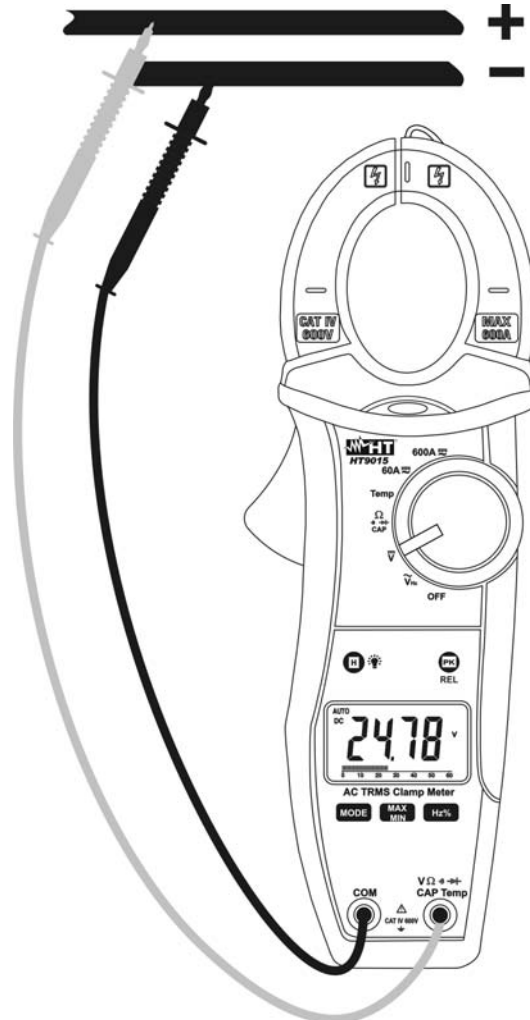

Fig. 4: Taking DC voltage measurements
2. Insert the red test lead plug into $V\Omega\bar{V}$ jack and the black test lead plug into **COM** jack (Fig. 4)